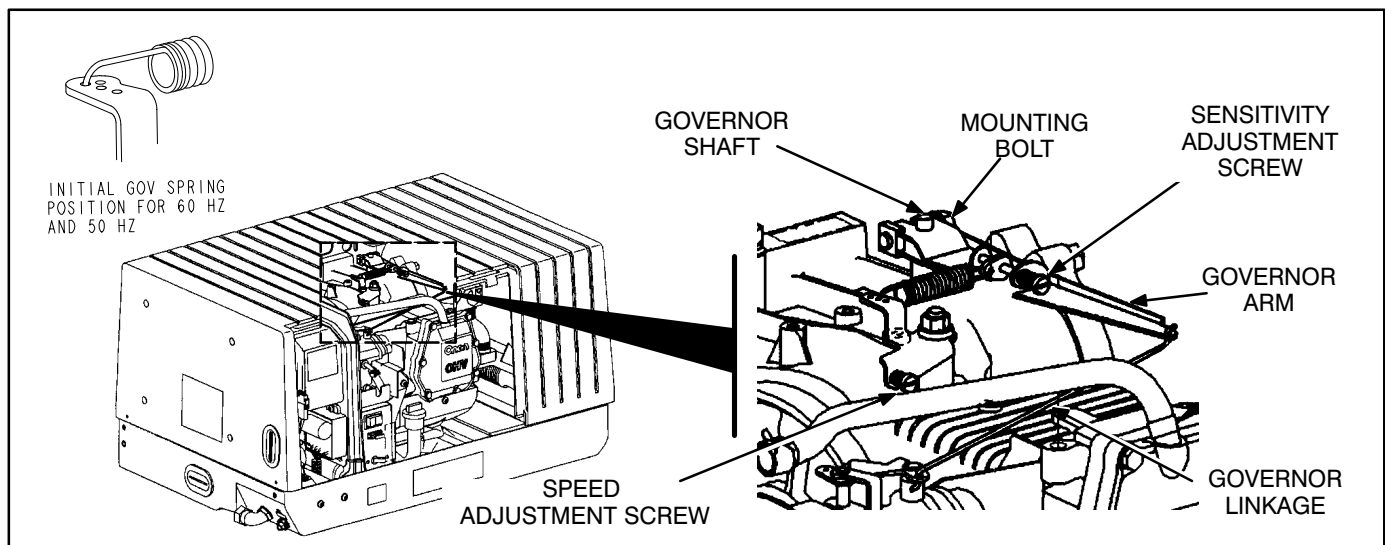

FIGURE 8-5. GOVERNOR ADJUSTMENTS
3. With the genset operating at no-load, turn the speed adjustment screw (Figure 8-5) on the governor linkage to obtain 62–63 Hz for a 60 Hz genset or 51.5–52.5 Hz for a 50 Hz genset. Turn the screw clockwise to increase speed and counterclockwise to decrease speed.